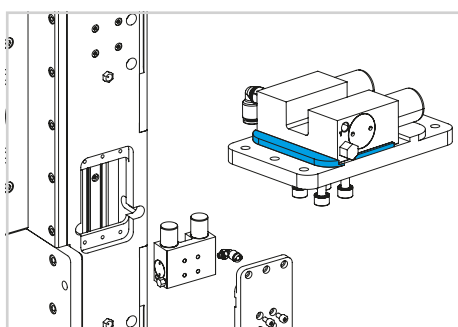

Fig. 23
- 2) Assembly the clamp/brake on the plate taking care about the right orientation as shown in the picture. Before tightening completely the screws push the clamp/brake against the reference sides on the plate. Assembly the air plug on the clamp/brake as shown in the picture (see Fig. 23).